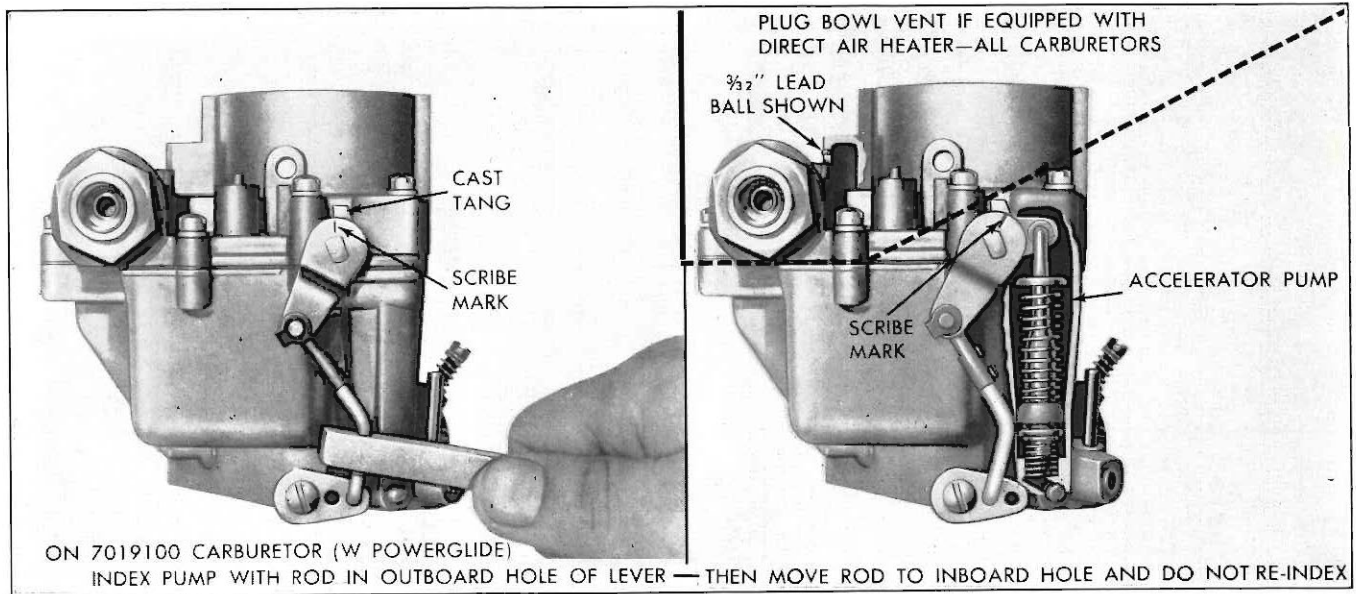

Fig. 2—1961 Corvair Carburetor Modifications
2. Connect the pump rod to the outboard hole of the pump lever (Fig. 2). Bend pump rod to align the pump index mark.
Corvair and LDFC carburetors (Nos. 7019100, 7019101, and 7019107), when used on vehicles equipped with a direct air heater, have under certain driving conditions emitted gasoline fumes. This odor is carried into the passenger compartment when the heater air mixing valve is opened. The main source of the fuel vapor is a $\frac{1}{16}$ inch external vent hole located in the air horn casting (Fig. 2).